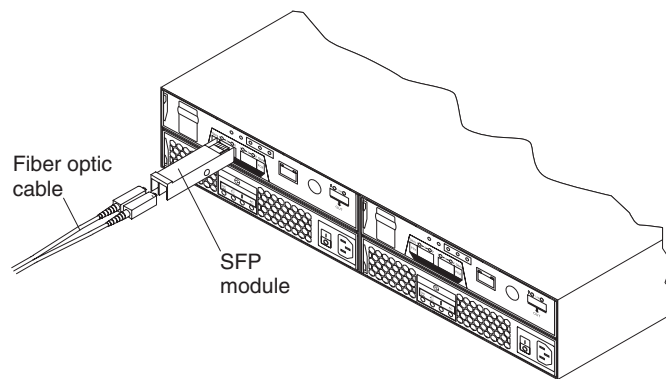

Figure 58. Installing an SFP module into the host port
- d. Insert the SFP module into the host port until it clicks into place. See Figure 58.